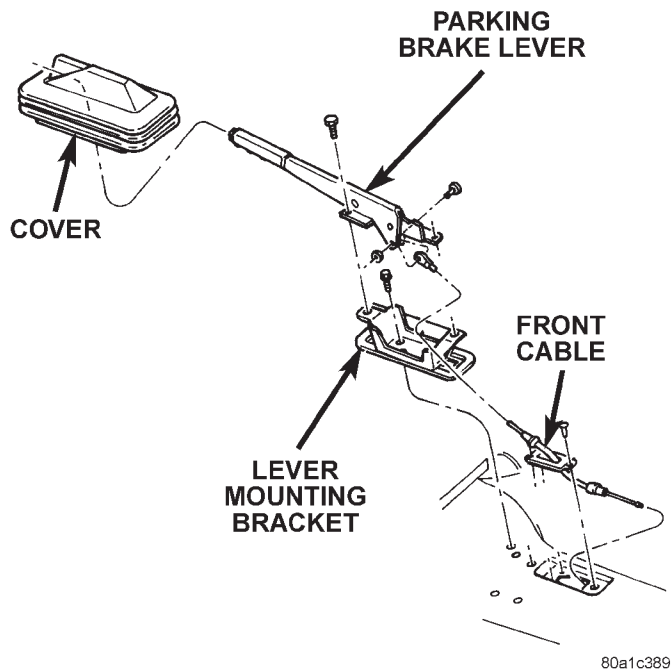

Fig. 37 Parking Brake Lever
- (7) Remove screws attaching parking brake lever to mount (Fig. 37).
- (8) Disengage front cable from parking brake lever and remove lever assembly from vehicle.